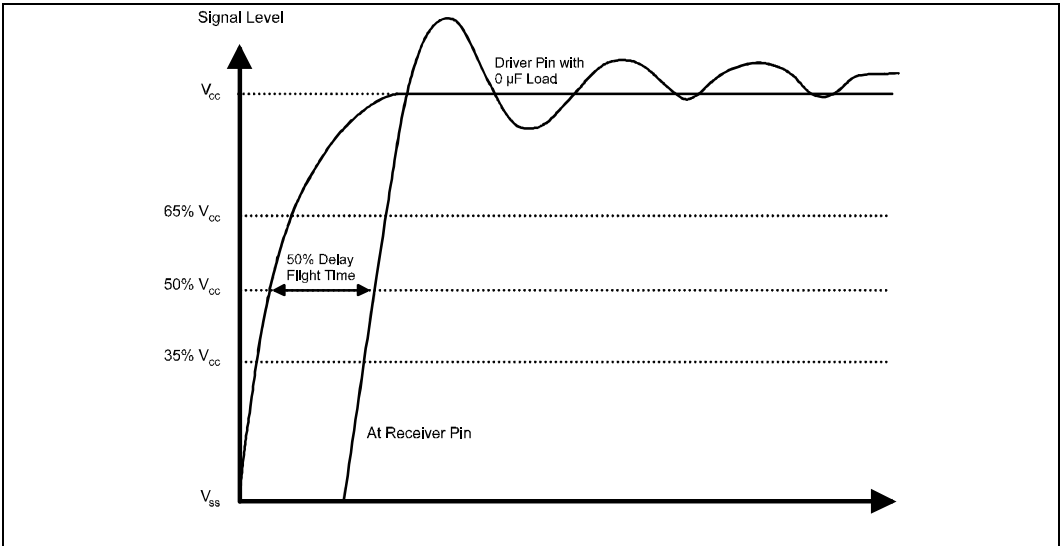

Figure 11. 50 Percent  $V_{CC}$  Measurement of Flight Time
11. This is a flight time specification, that includes both flight time and clock skew. The flight time is the time from where the unloaded driver crosses 1.5V (50% of min  $V_{CC}$ ), to where the receiver crosses the 1.5V level (50% of min  $V_{CC}$ ). See Figure 11. The minimum flight time minus the clock skew must be greater than zero.